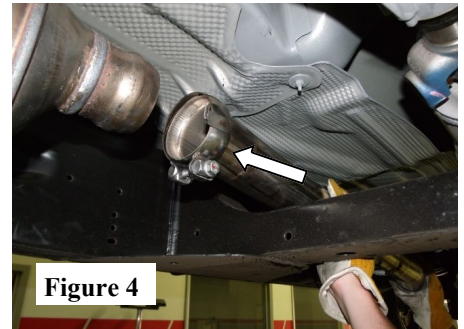

Figure 4
- Using the original hardware, place the **Front Pipe Assembly** into position using the factory ball clamp. Install the hanger into the rubber isolator. (See Fig. 4) Do not tighten the clamp.